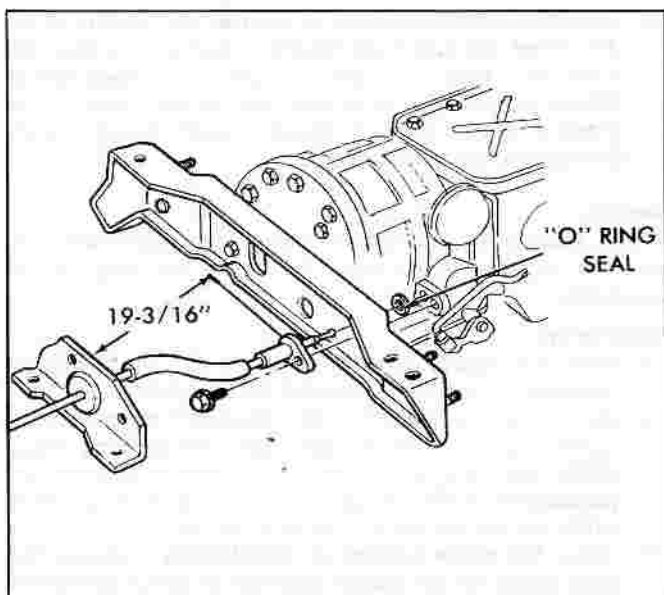

Fig. 7E-6—Cable-to-Case Installation
6. Install "O" ring seal (fig. 7E-6) on cable, lubricate "O" ring lightly with Lubriplate.
7. With throttle rods disconnected from the throttle valve (TV) lever on the transmission, rotate the TV lever its full limit counter-clockwise and insert cable ball into the slot of the manual valve lever.